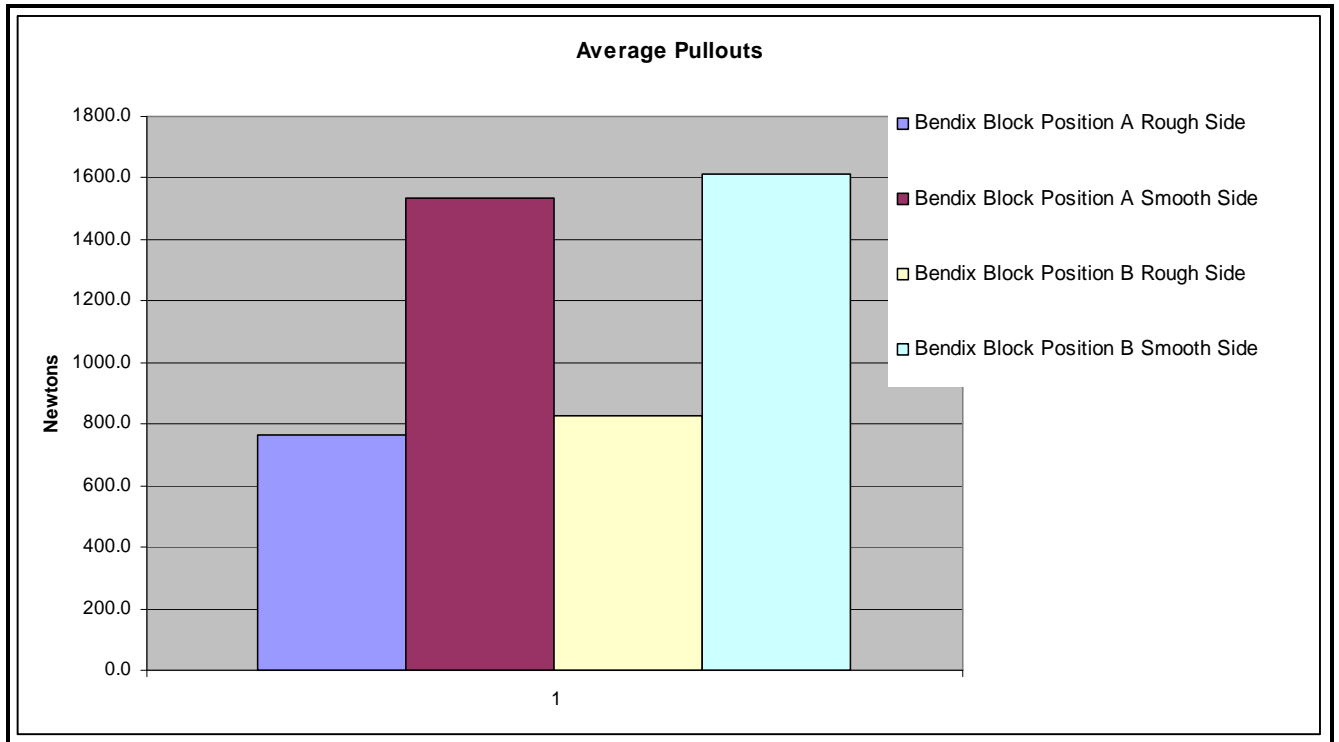

Figure 1 Graph of Average Pullouts
Tested By: J.Mallet**Results:** For 14-10 T17 thread dimensions refer table 1 and pullout data refer table 2 and figure 1.
- For the Pullout Values refer table 2 for data and the figure 1.